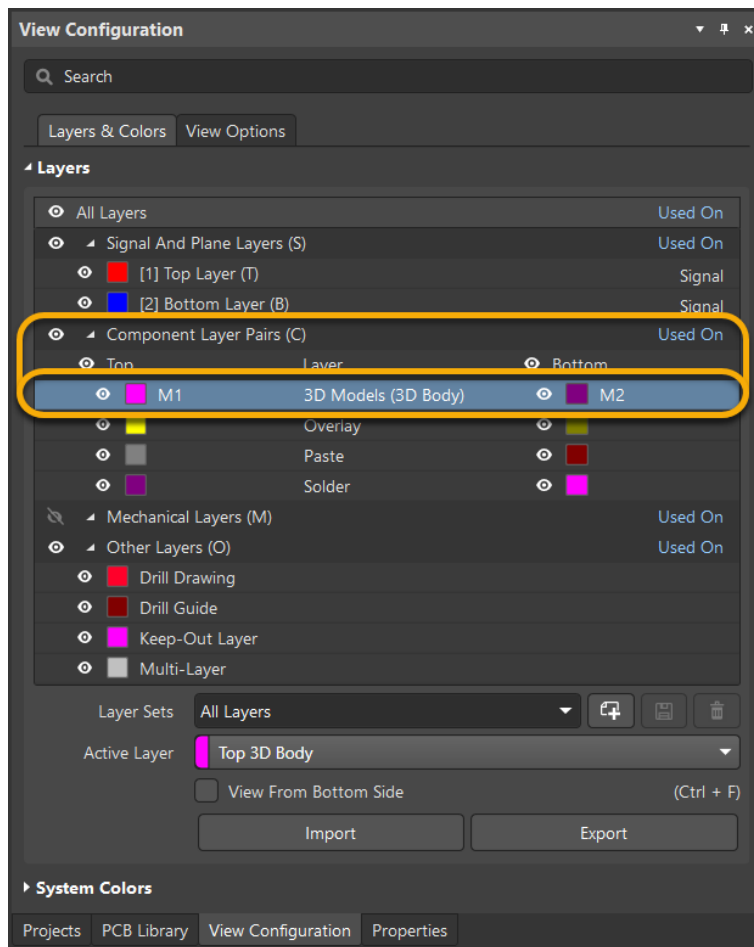

Figure 32. Layer Pairs
47. The new layer pair will be added to the *Component Layer Pair* section of the *View Configuration* panel, Figure 32.